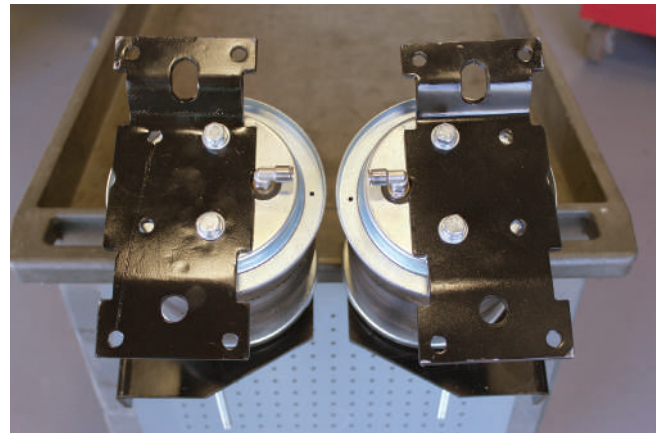

Fig. 15
- Fig. 15 shows the driver's (left) side and passenger's (right) side assemblies.